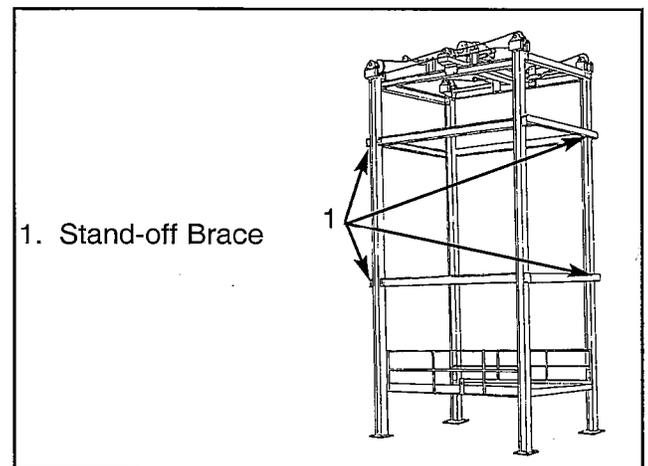

Figure 23
26. See GA drawing for position and number of braces necessary. Depending on the load and unload pattern, it is sometimes necessary to eliminate the near side stand-off brace. See Figure 23.